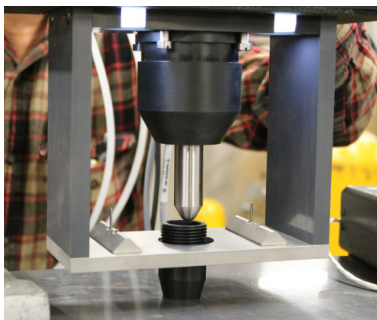
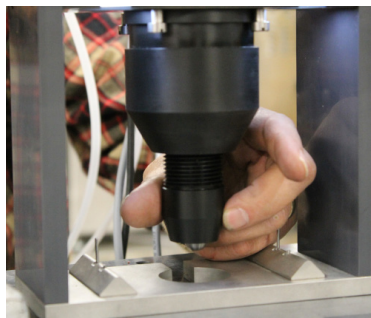

Figure D.7 - Attaching lower portion of Load Shroud
Figure D.8 - Attaching lower portion of Load Shroud
6. To re-attach the lower portion of the load shroud, place the lower portion of the shroud on a flat surface. **CAREFULLY** lift the load frame, and position it so that the load nose is directly above the lower portion of the shroud (Figure D.7). Lift the lower portion of the shroud up and gently screw it in to the upper portion (Figure D.8).